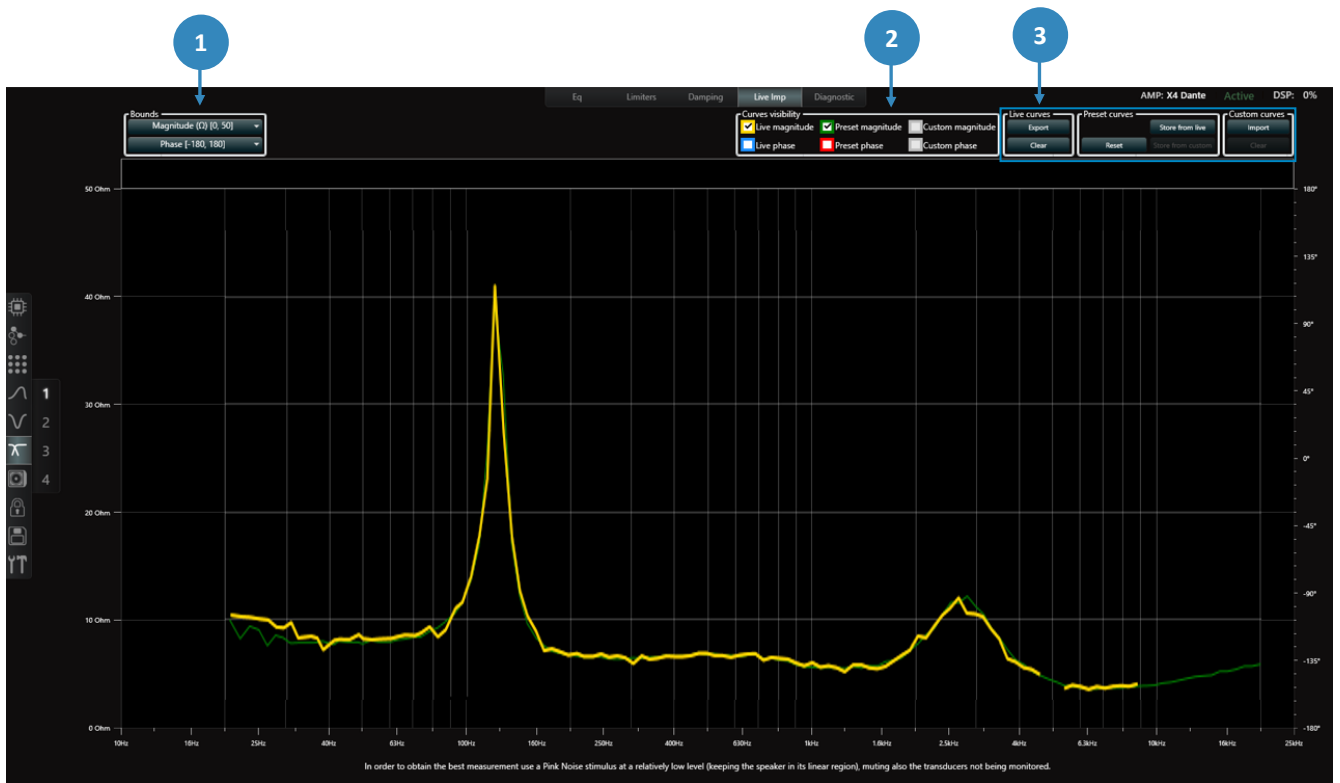

Figure 5 – Live Impedance page in ArmoníaPlus.
3. From the top bar, select the ‘Live Imp’ tab to show the Live Impedance page (Figure 5).